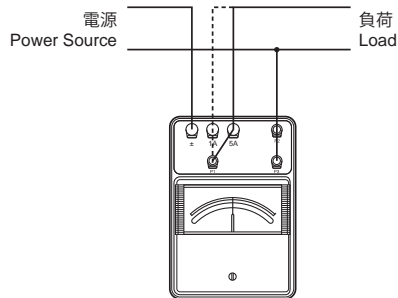
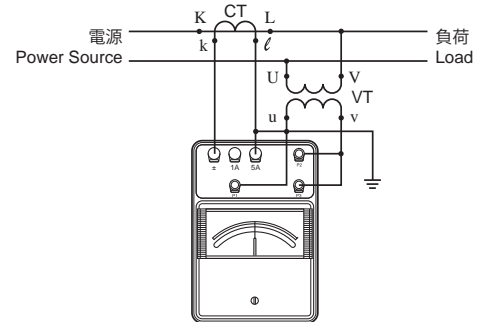

Fig.2-1
Fig.2-3
- Conduct the measurement by short circuiting the voltage terminals P_2 and P_3 as shown in Figure 2-1. If only one of terminals P_2 and P_3 is used, a measurement error of approximately 2° will result.
- When using a current transformer (CT) or a voltage transformer (VT), choose a type whose rated current or voltage is close to that of the instrument's terminal to which it is connected.
- When using a CT and a VT together, be SURE to ground them as shown in Figure 2-3 before use.**
(2) 三相力率測定